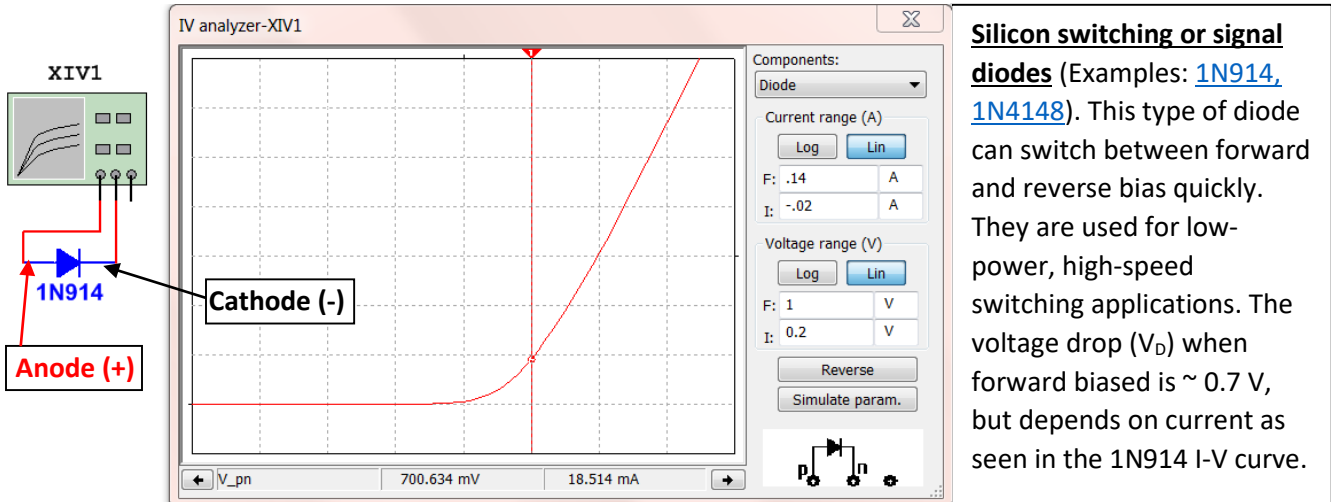

Figure 6.1: Characteristic Curve ( $I_D$  vs  $V_D$ ) of a 1N914 silicone switching diode (also called signal diode).
**Note:** There some additional Diode example problems at the end of the Appendix. A diode is a device that acts like a current valve, where current is allowed to flow from anode to cathode, but not allowed to flow from cathode to anode (base of triangle). When current is allowed to flow the diode is said to be **forward biased** and when current is blocked it is **reverse biased**. There are many different types of diodes. The two main types discussed in this eBook are shown in Figures 6.1 (switching diodes) and 6.2 (rectifier diodes).
A few other types of diodes are discussed below. An  $I_D$  vs.  $V_D$  curve can be done for any diode using the Multisim I-V Analysis tool (as shown in Figures 6.1 and 6.2) if the voltage at a specific current is needed to be known.